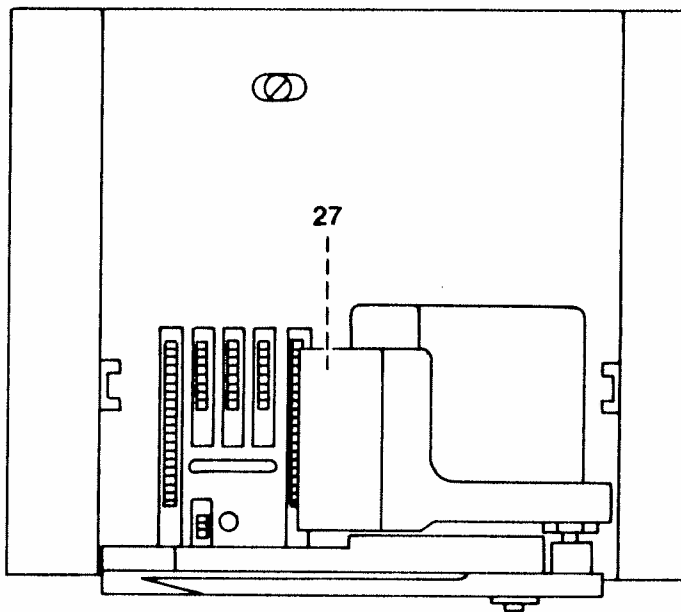

Fig. 5d
- Place the pointer gauge with feeler lever 27 to the left on the feed dog (Fig. 5d).